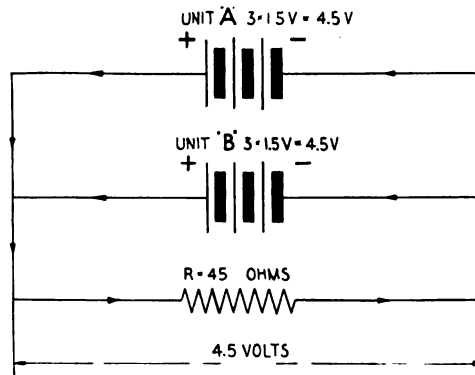

Figure 15
In the diagram (Figure 15) two battery groups, A and B, consisting of three cells connected in series, are connected in parallel and their positive and negative terminals joined through the resistance, R, of 45 ohms. By this connection, the E. M. F. at the terminals is that of either group A or B, but the current supply is that available from the two groups.
(1) In connecting groups of cells in parallel, as shown in Figure 15, care must be taken to have like E. M. F.'s in each group, otherwise the weaker cells will absorb current from the stronger cells.
QUES.—If the current output of each cell of Figure 15 is 15 amperes, what will be the current available at the terminals of the external circuit?
Example:—In the circuit of Figure 15, the joint resistance of the three elements